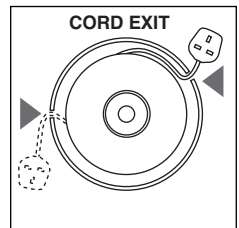

Fig.2
- Release cord from storage base and adjust length by winding around the base to give the correct cord length to reach the plug socket to be used (fig. 2).